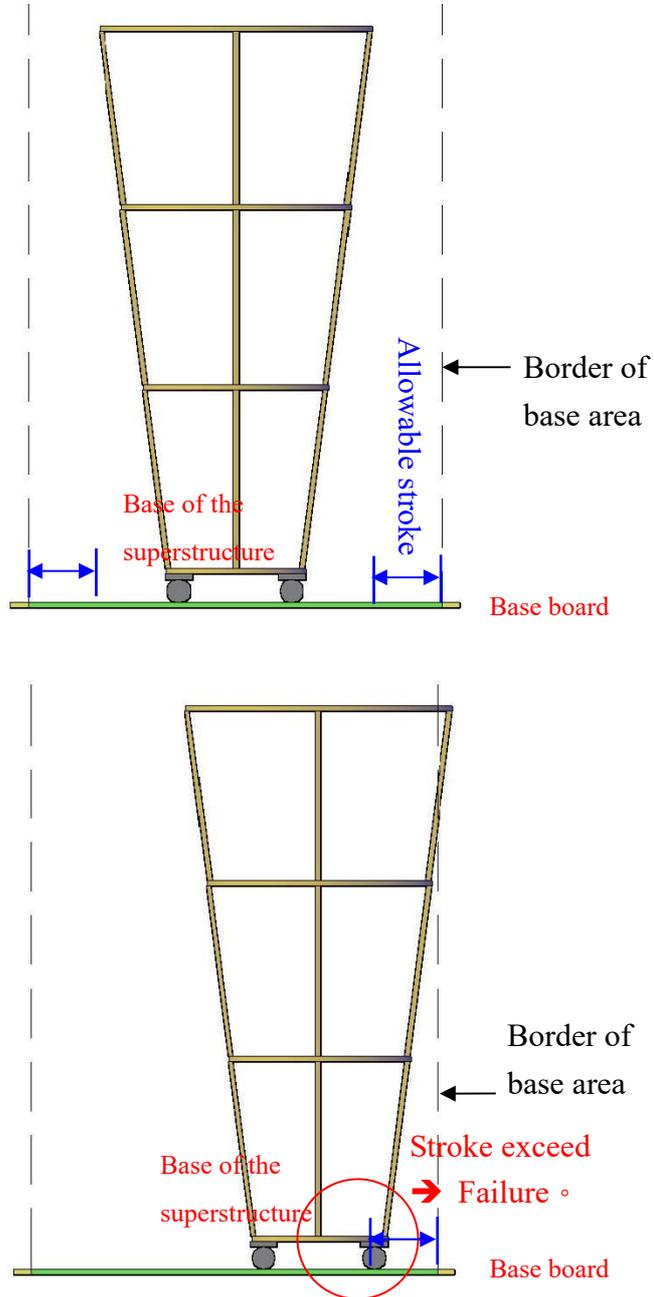

Figure 5: Illustration of the allowable stroke of the isolation system
- If a seismic isolation system is used and the system exceeds the allowable displacement during a test, the model building is considered as failure (Figure 5).